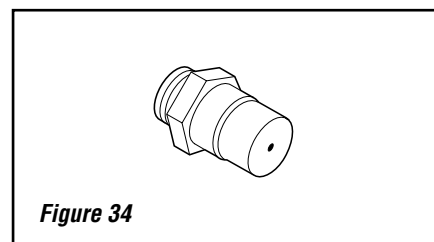

Figure 34
Step 8. Unscrew the orifice from the manifold and replace it with the one provided with the kit. See the following table for orifice sizes for natural and propane models. **Figure 34** illustrates the orifice.